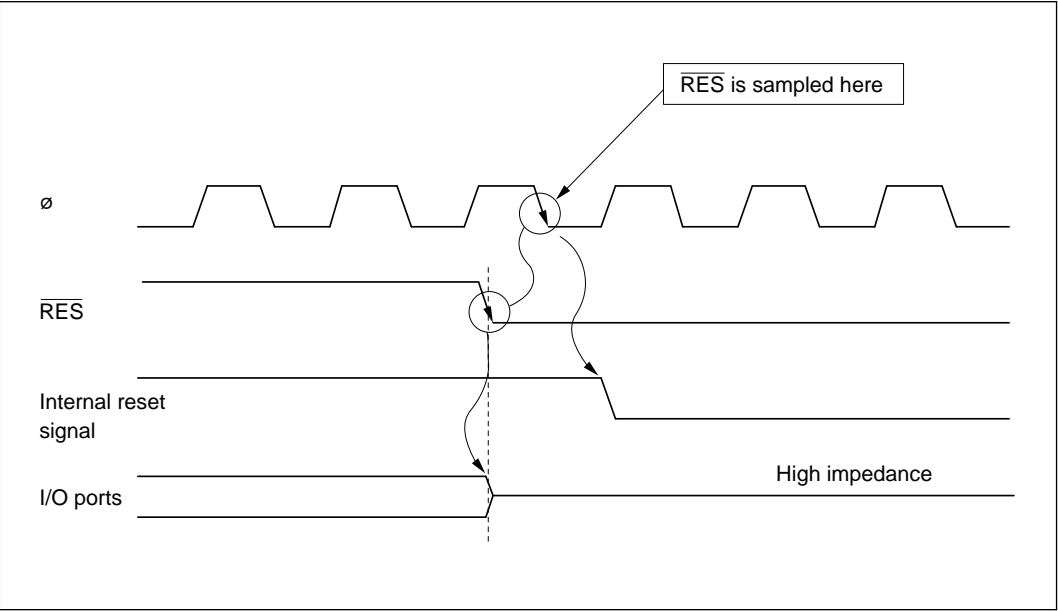

Figure G-5 Resetting of I/O Ports (mode 7)
(5) Mode 7: Figure G-5 is a timing diagram for the case in which $\overline{\text{RES}}$ goes low in mode 7. As soon as $\overline{\text{RES}}$ goes low, all ports are initialized to the input state.